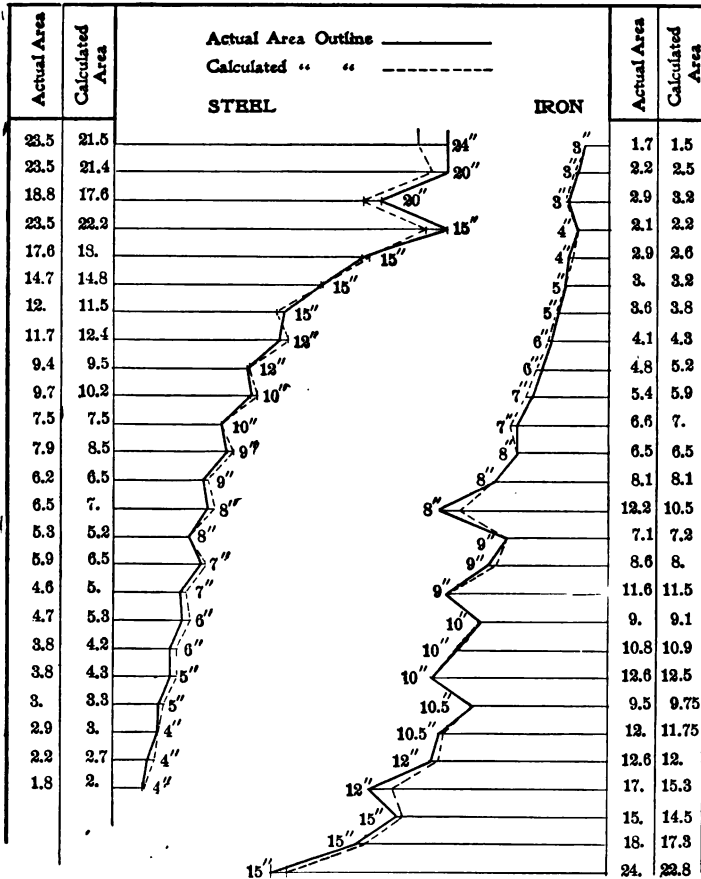

FIG. 20. ACTUAL AND CALCULATED AREA OF CARNEGIE I-BEAMS.
the New Jersey Steel and Iron Company, we obtain very conclusive results. These latter can be shown to better advantage in the form of a diagram, as in Figs. 20 and 21. The abscissæ are simply equal distances for spacing the shapes and have no other meaning, but the ordinates are drawn to scale and indicate the areas of the sections. The top of the ordinates are joined by straight lines. The full lines indicate the areas given in the books of shapes, and the dotted lines those derived from formula (28). It is thus seen that the two series of values are nearly identical.